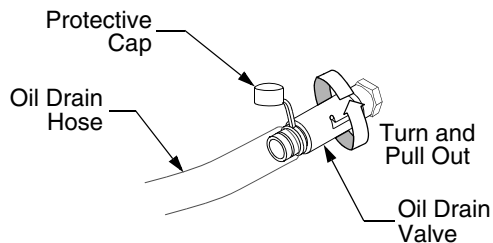

Figure 21
- Pop open the protective cap on the end of the oil drain valve to expose the oil drain port. See Figure 21.